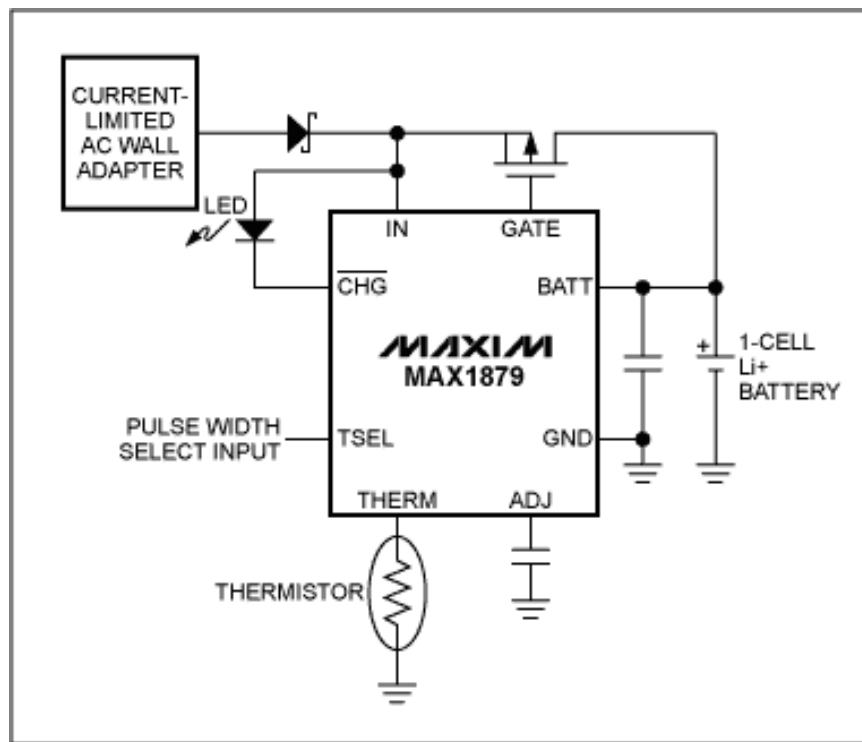

Figure 3. Li+ charger with the MAX1879
- Few external components, no inductor needed (see Figure 3)